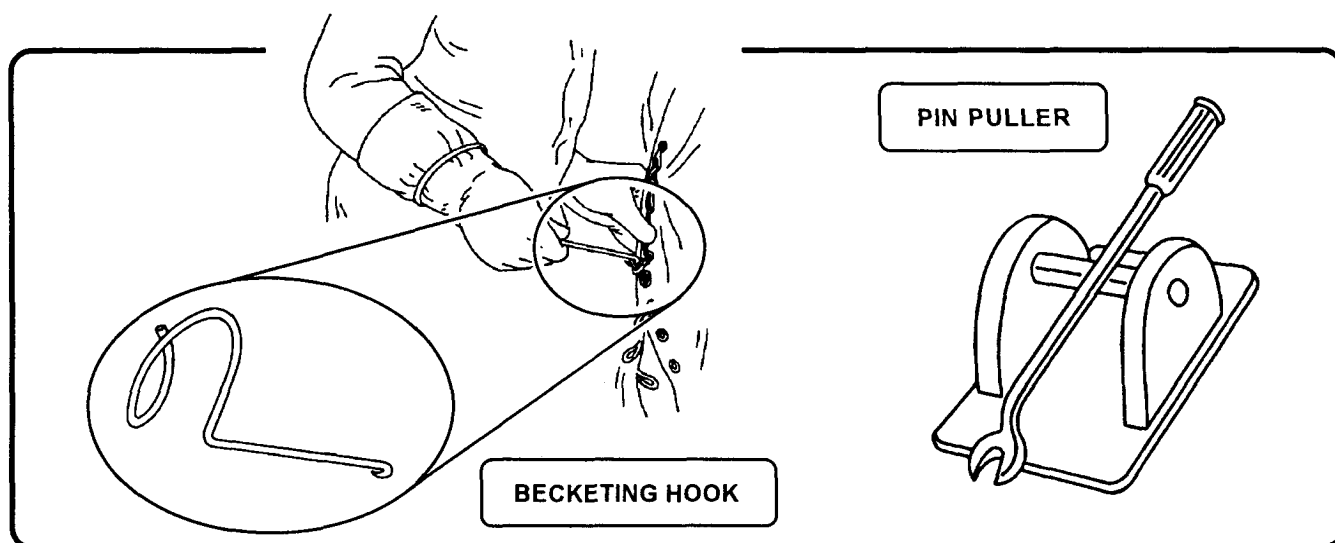

Figure 10-10. Becketing hook and pin puller
**Tools and equipment.** No special tools or equipment are required by operator or crew personnel for maintaining the TEMPER. However, in arctic regions, the becketing hook is essential, especially in untying frozen laces. A pin puller is also essential when tent pins are frozen in the ground. Both items can be manufactured locally. See Figure 10-10. A 2 ½-pound sledge hammer is also useful in arctic regions.